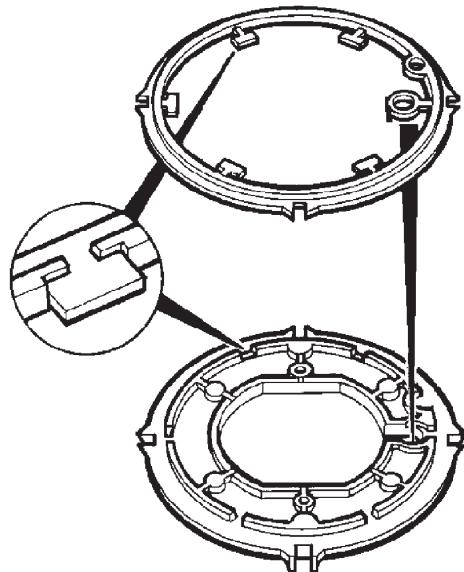

Fig. 14
21. Attach two fixing disc gaskets to the two fixing discs (one for each burner size). (See Fig. 14).